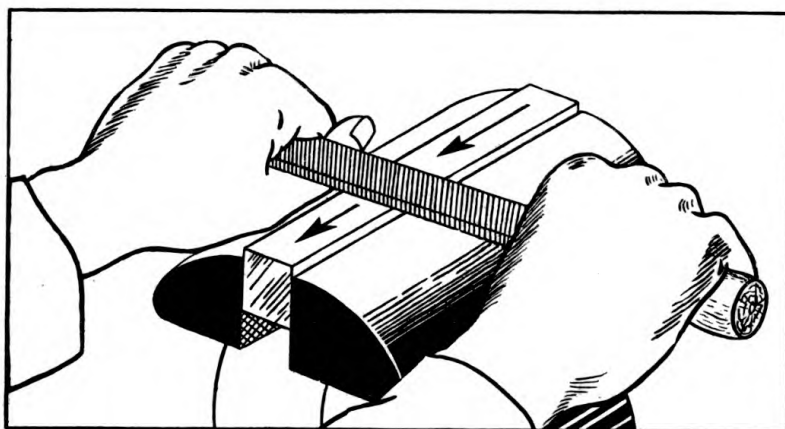

FIGURE 23.—Draw filing.
(6) To produce a very smooth surface, work is sometimes "draw-filed." In draw filing, move the file sidewise along the work, as shown in figure 23. A single cut smooth file should be used. Pressure is heaviest on the stroke made toward the body and very light on the return.
(4) When chipping steel, it is advisable to lubricate the chisel point with a light machine oil. This will make the chisel easier to drive and cause it to cut faster than it would if dry. When chipping cast iron, chip from the edges of the work toward its center to avoid breaking off corners.
d. Care of cold chisels.—(1) *Sharpening.*—Chisels, like all cutting tools, must be sharp to give satisfactory service. The cutting angle should be about 60° and the edge slightly rounded, as shown in figure 23. Sharpening is usually done on an ordinary coarse grinding wheel. The chisel should not be pressed too hard against the wheel, or enough heat will be generated to draw the temper out of the steel. If the cutting angle is ground too small, the chisel will not be safe